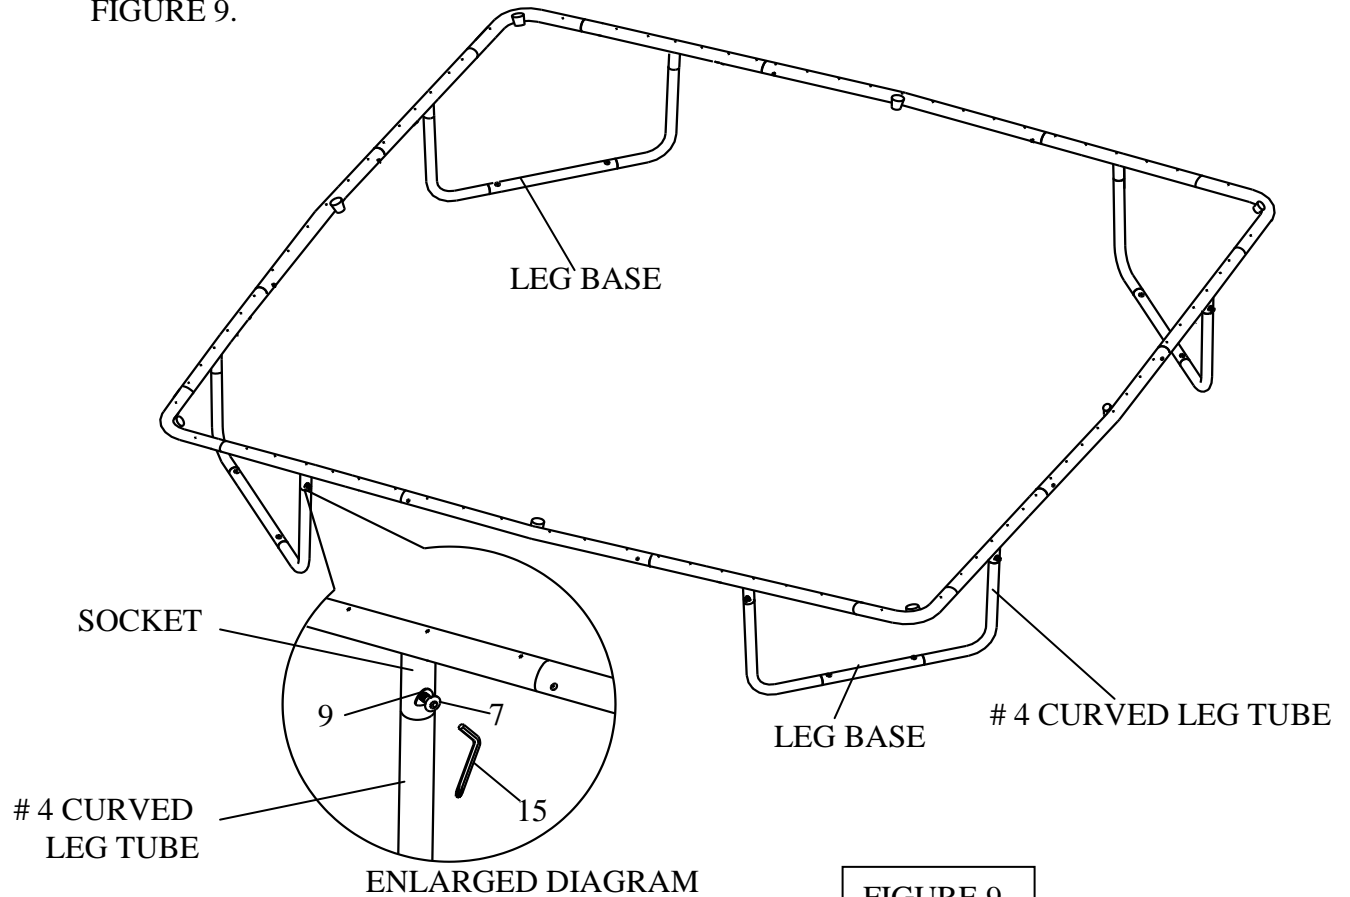

FIGURE 9
STEP 8 – Now, use ALLEN WRENCH (#15) to tighten all the SCREWS (#7) as shown in FIGURE 9.